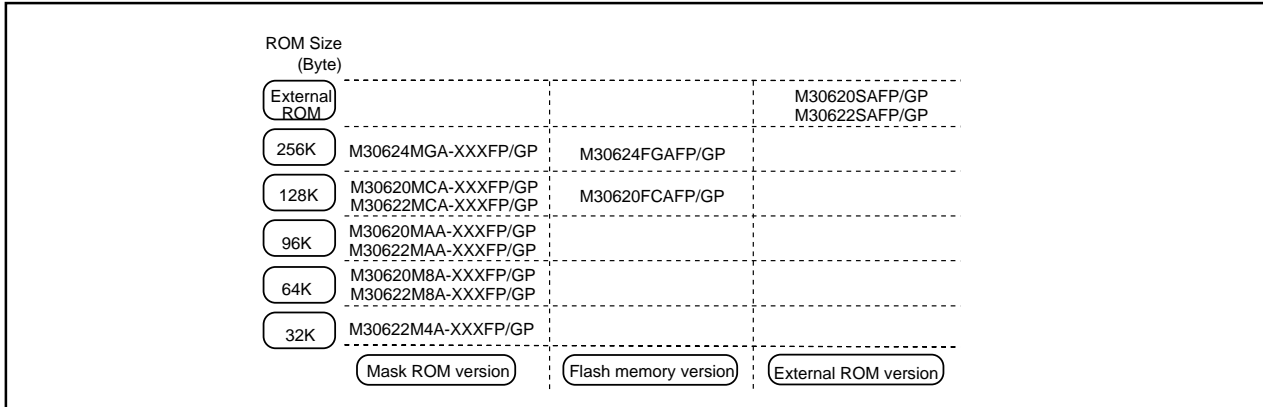

Figure 1.1.4. ROM expansion
- Memory capacityROM (See Figure 1.1.4. ROM Expansion)
| Memory capacity | ROM | (See the figure 1.1.4. ROM Expansion) |